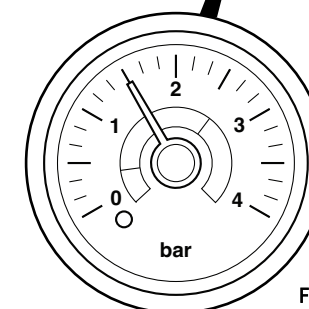

Fig. 42
5. Pressurise the system to 1.5 bar (Fig. 42).